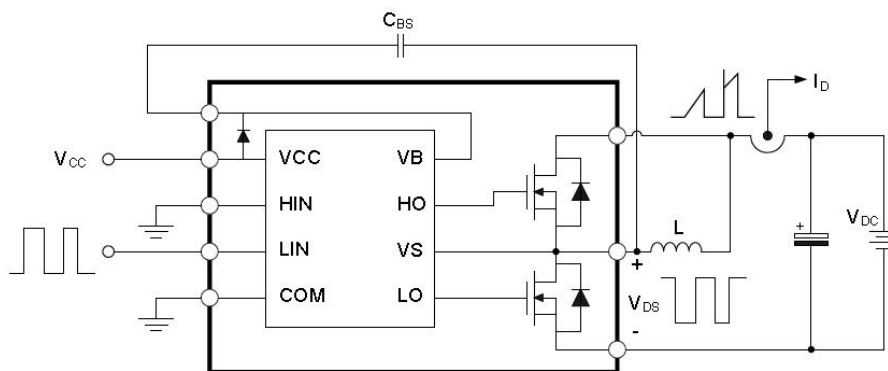

Figure 2 Switching time and low side of RBSOA test circuit
- t_{ON} and t_{OFF} include the internal transmission delay of the HVIC. The typical values listed are test values under laboratory test conditions and may vary in practical applications depending on the printed circuit board and circuitry used. For detailed definitions and test circuits of switching times, please refer to Figure 2 below.